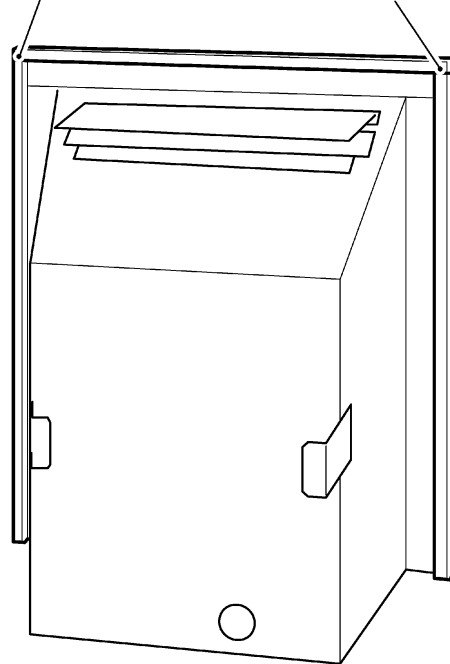

Figure 12. Fitting the foam seal
6. There is a length of self adhesive foam seal supplied with the fire. This will need to be fitted to the outer rear edges of the side and top flanges of the hotbox. Cut a 485mm length of foam seal. Be careful not to stretch the seal when measuring. Remove the protective backing from the foam seal and fit this to the rear of the top flange (See figure 12). Cut two 580mm lengths. Fit these to the rear outer edges of the side flanges. Ensure that there is no gap between the foam seals where they meet at the top flange (See figure 12)